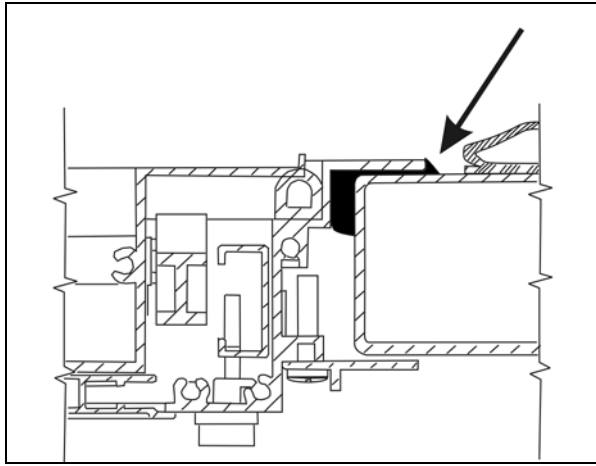

FIGURE 73 : SMOOTH DOWN THE JOINT
10. Open the awning window manually and smooth down the joint (FIGURE 73) and remove glue in excess with Sika 208;